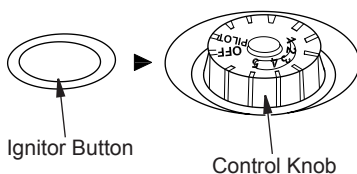

Figure 20 - Control Knob in the OFF Position
- Wait five (5) minutes to clear out any air. Then smell for gas, including near the floor. If you smell gas, STOP! Follow "B" in the safety information on page 16. If you do not smell gas, go to the next step.
- Turn control knob counterclockwise ↶ to the PILOT position. Press in control knob for five (5) seconds (see Figure 20).